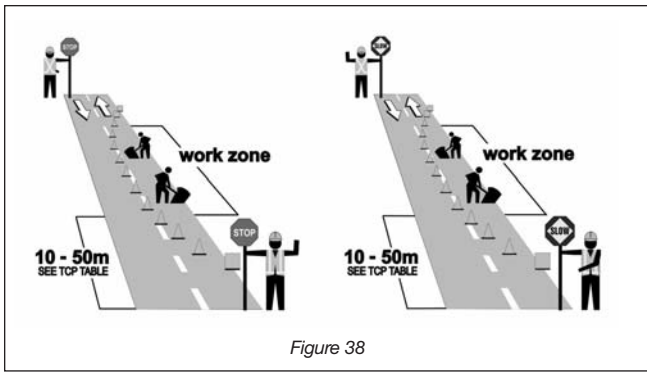

Figure 38
- traffic control persons (TCPs) using signs (Figure 38)